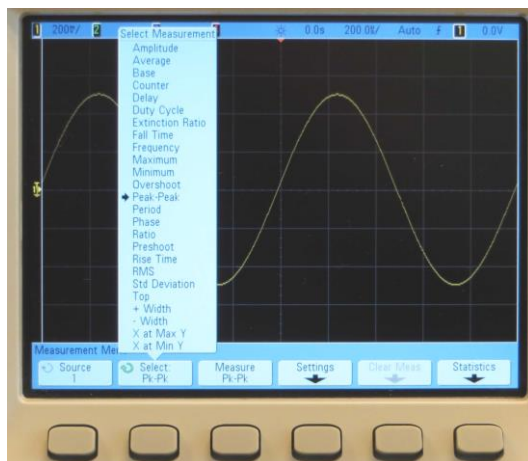

Fig. 14. Select measurement menu.
- Press the Quick Meas button shown in Fig. 13 and the Measurement Menu will appear. From the menu, you choose the source channel, the measurement you want, and then display it. When you press the Select button the menu in Fig. 14 appears. You can keep pressing Select until the arrow points to the desire measurement, or you can use the Select Knob next to the Autoscale button to do the same.